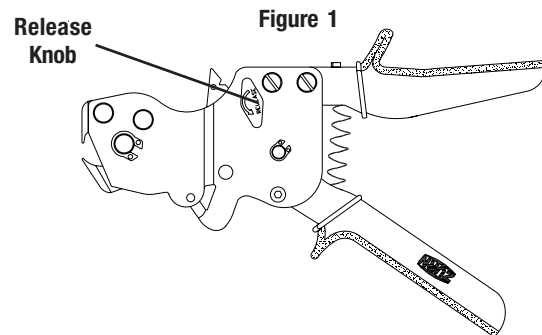
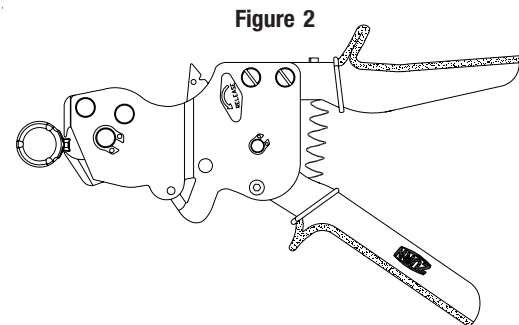
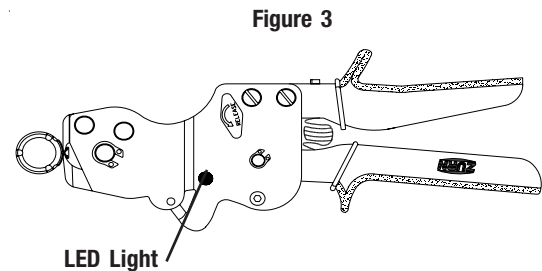

Figure 1
Figure 2
Figure 3
Step 4: Open the QCRTQCRM tool by turning the Release Knob counter-clockwise (Figure 1). Place the jaws completely over the QickClamp pinch ear. With the tool at a 90° angle to the tube (Figure 2), close the tool by squeezing the handles together repeatedly until the LED light comes on. This may take 6-8 squeezes (Figure 3).